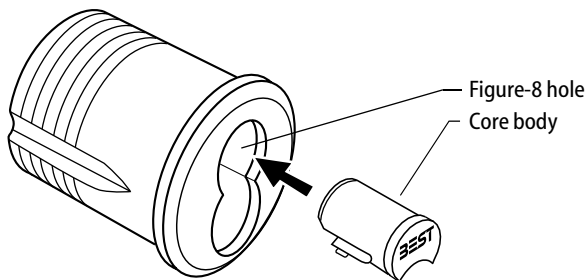

Figure 1 Inserting the plastic core body into the figure-8 hole (mortise cylinder housing shown).
- Insert the core body into the upper part of the figure-8 hole. See Figure 1.